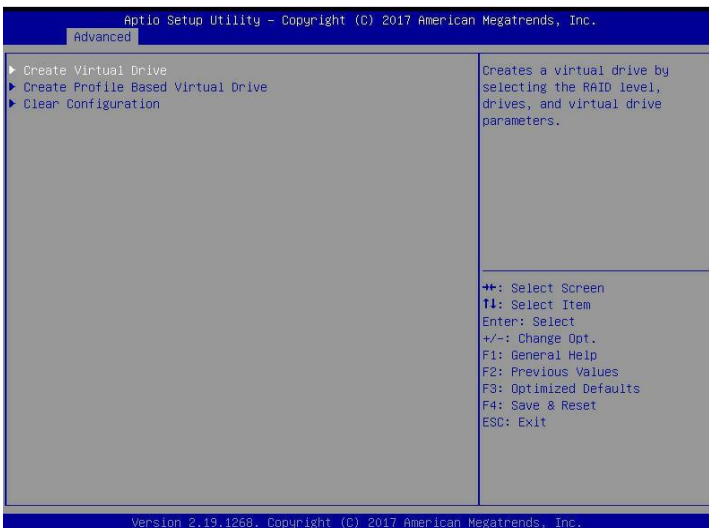

Figure 6-32
- b) Enter the interface shown in Figure 6-32, select Create Virtual Drive, and press Enter.
❖ Figure 6-32 Select Create Virtual Drive